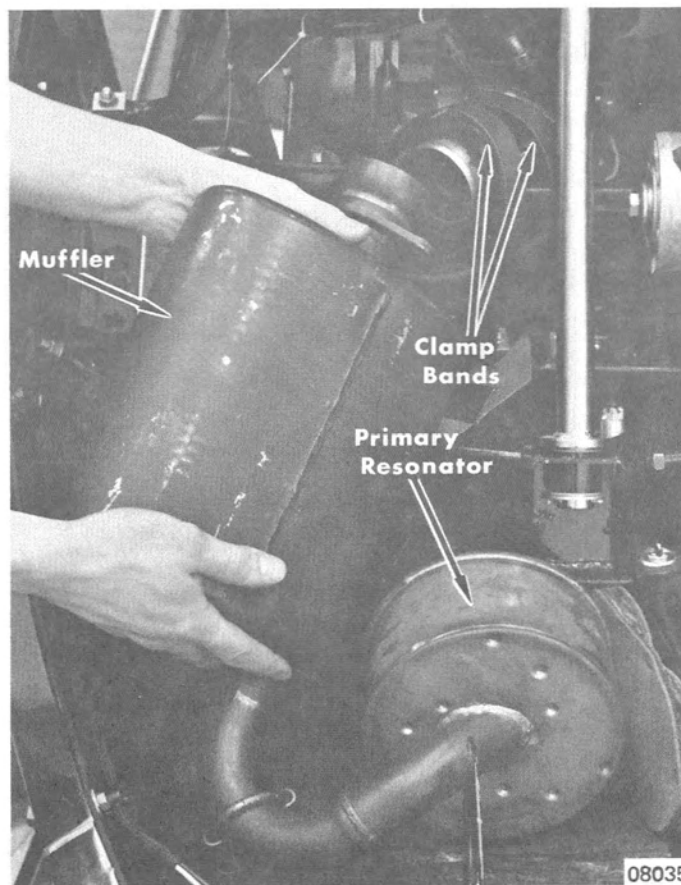

Figure 2. Removing Muffler
4. Position muffler clamp bands over ball joints as shown in Figure 2.
5. Remove muffler by lifting up on rear of muffler and pulling out of primary resonator pipe. (Figure 2)
6. Remove primary resonator (Figure 2) by pulling forward and out of secondary resonator.